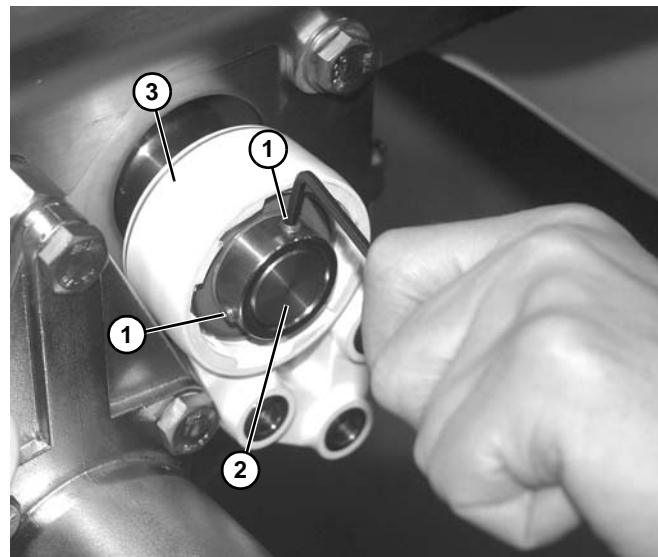

Figure 176
5. Loosen two set screws (Figure 176, item 1) securing bearing onto idler spindle (Figure 176, item 2).
6. Remove roller bearing housing (Figure 176, item 3) from idler spindle (Figure 176, item 2). Repeat to remove second roller bearing housing.